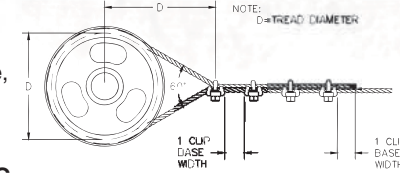

Figure 4
4. If a pulley (sheave) is used in place of a thimble, add one additional clip. Clip spacing should be as shown. (See Figure 4)